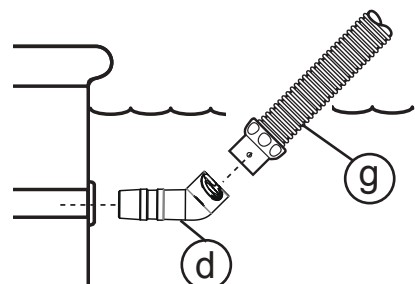

Figure 2. Dedicated Suction Line Connection
3. Angle the elbow toward the water surface (Figure 2).